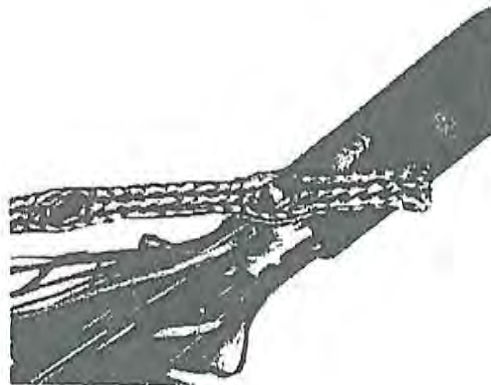

Figure 12 - Braided Bond With Eyelets Attached to Small Gator Clamp
4.05 Attach braided bond **with** eyelets to the stud of style bond clamp using one nut with a captured external tooth lock washer to secure the outer clamp plate and a second similar nut with a captured lock washer to secure the bond strap (Figure 12). Tighten the nuts with a torque of 10 to 40 inch-pounds.